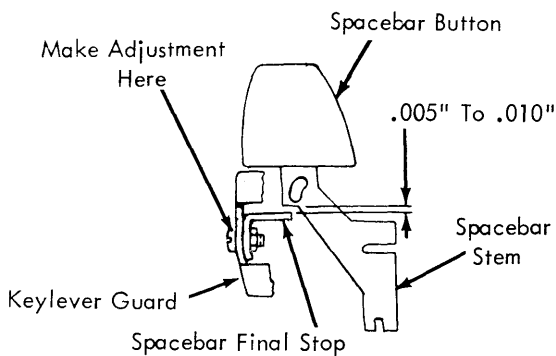

FIGURE 119. Spacebar Final Stop (Early Style)
6. Spacebar Final Stop - On early level machines, adjust the stop located on the keylever guard to obtain .005" to .020" clearance between the stop and the spacebar center stem at the time a repeat operation occurs (Fig. 119). On current level machines the final stop has been eliminated.